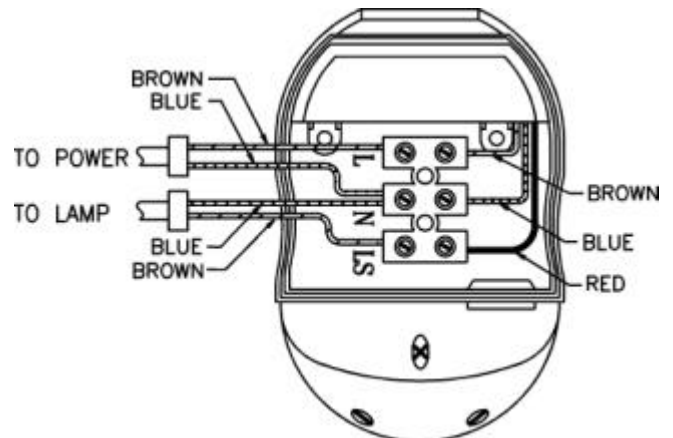

FIGURE 8
- (5) For power wire connection, connect the BROWN wire (Live wire) to the terminal block "L" mark. Connect the BLUE wire (Neutral wire) to the terminal block "N" mark (FIGURE 8).